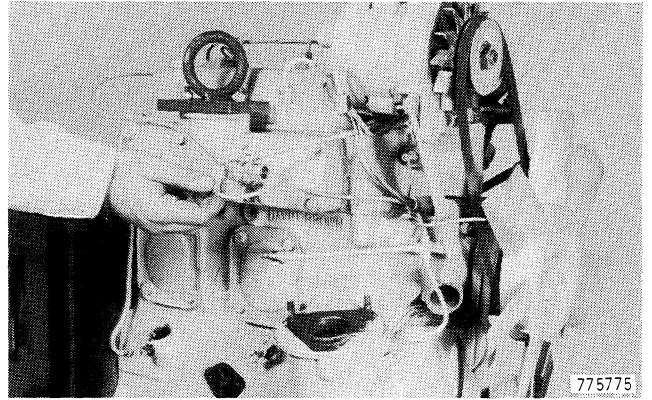

Figure 29
4. Disconnect the wire from the thermostart unit, Figure 29.